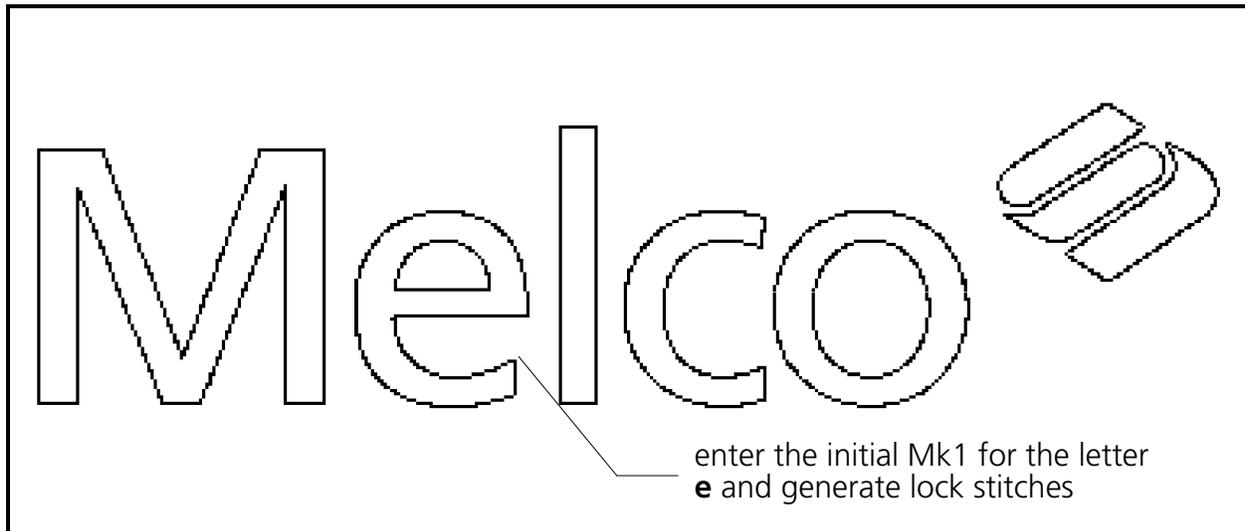

Figure 6-33
2. Go to the letter **e** in the example design and enter a Mk1 at the upper right corner of the tail of the letter **e** (see Figure 6-33).